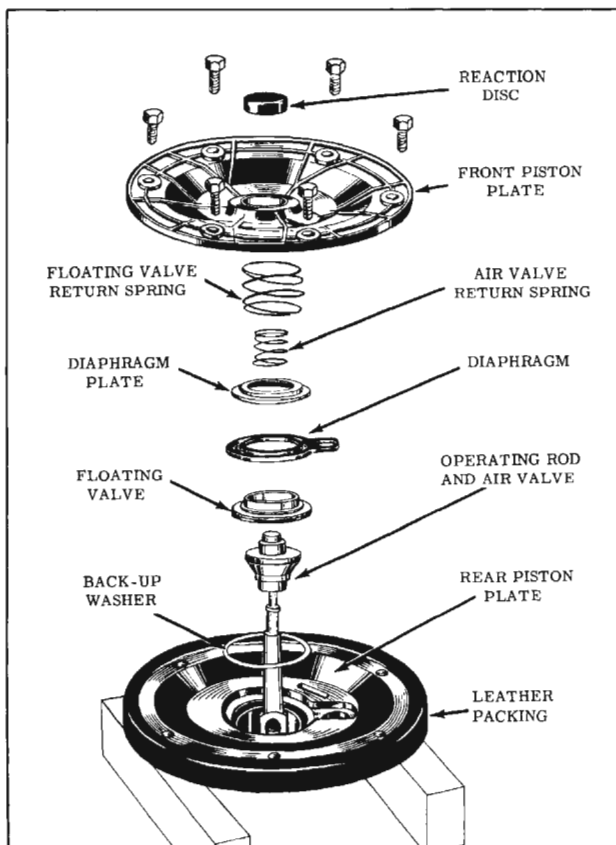

Fig. 7-32 Assembly of Vacuum Piston
3. If the floating valve was disassembled, assemble as shown in Fig. 7-32.
8. Position and align the front piston plate over the rear piston plate and loosely install the six attaching screws. (Fig. 7-32)